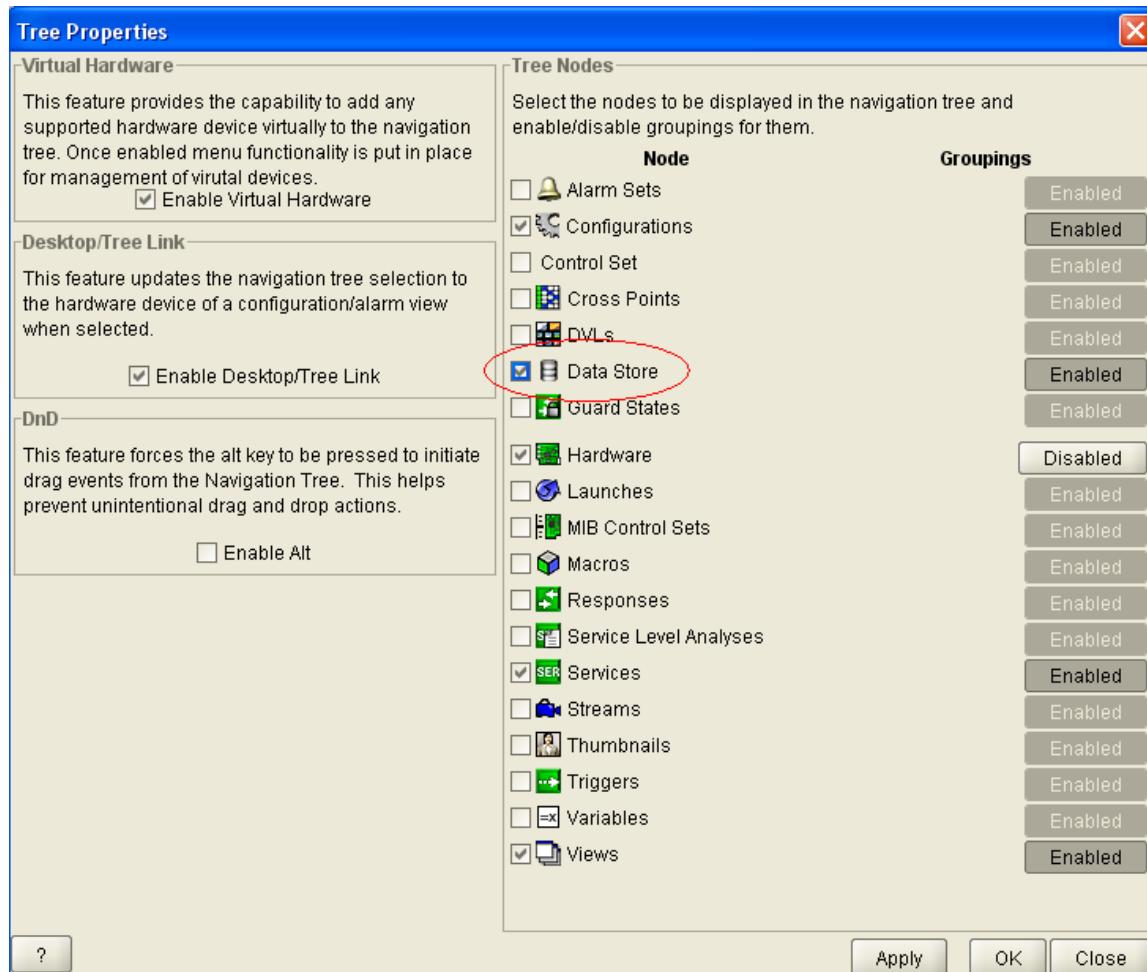

Figure 3-1: Tree Properties
2. In the VLPro Client, go to the ‘Tree’ menu and select ‘Properties’. In the ‘Tree Properties’ window, ensure there is a checkmark beside the ‘Data Store’ node (as shown below in Figure 3-1).